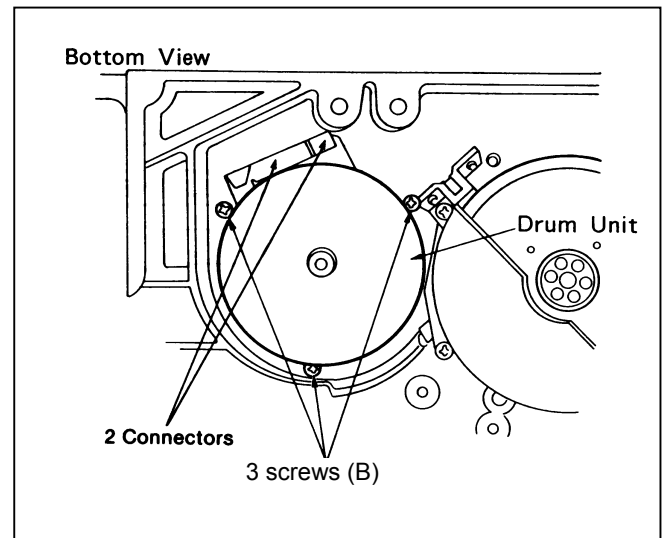

Figure 7-2-3 Drum unit Removal
8. Referring to figure 7-2-3, remove 2 connectors on drum unit and 3 connectors on p.c. board.
9. Unscrew 3 screws (B) and remove Drum Unit as shown in Figure 7-2-3.